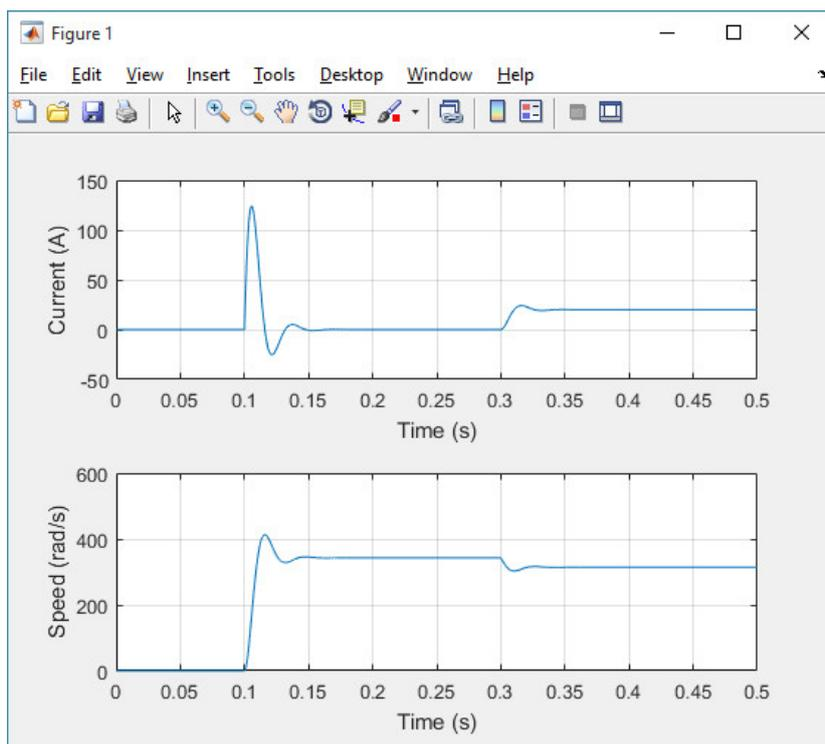

Figure 7: Rated voltage step at $t = 0.1$ s and rated load torque step $t = 0.3$ s.
It is practical to write and save these commands as a script (e.g., using the name `fig.m`) and then run the script by typing its name (`fig`) in the workspace. This way you can easily edit and reuse your scripts. The simulation results should look similar to those shown in Fig. 7. If they look different, you should debug your model.
1. Simulate the sequence corresponding to Fig. 7. Modify the plotting script so that the per-unit current and the per-unit speed are plotted (use their rated values as base values and do not normalize time). Show this result in your report. Remember to change the axis labels. Explain why there is a very large peak in the current after the voltage step is applied.